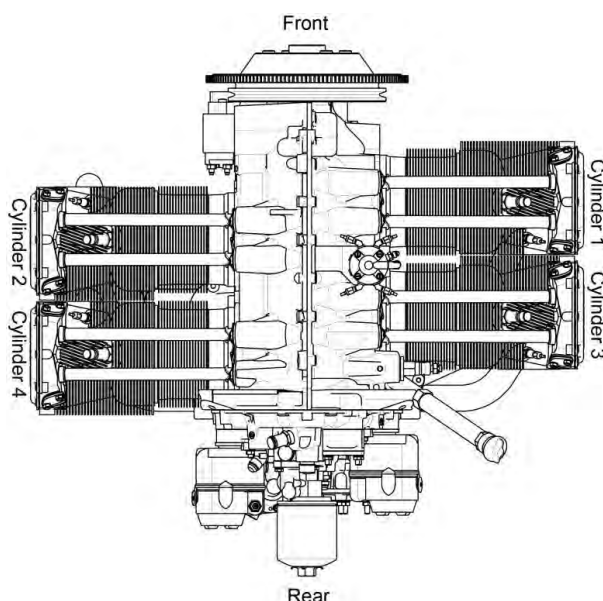

Figure 3
- When viewed from the top of the engine, the left side cylinders are 2-4. Cylinder 2 is at the front of the engine. Refer to Figure 3.
- When viewed from the top of the engine, the cylinders on the right are 1-3. Cylinder 1 is at the front of the engine. Refer to Figure 3.